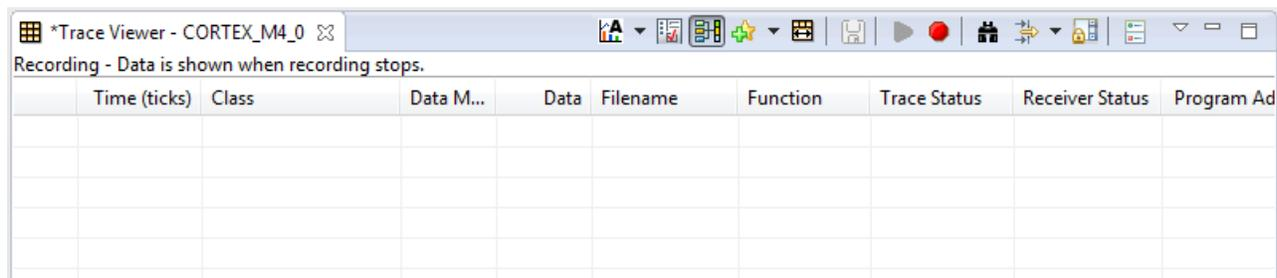

Figure 18. Custom Core Trace Window
6. A new window appears in the bottom right corner of the debug view, as shown in Figure 18. You are now ready to run the use case.